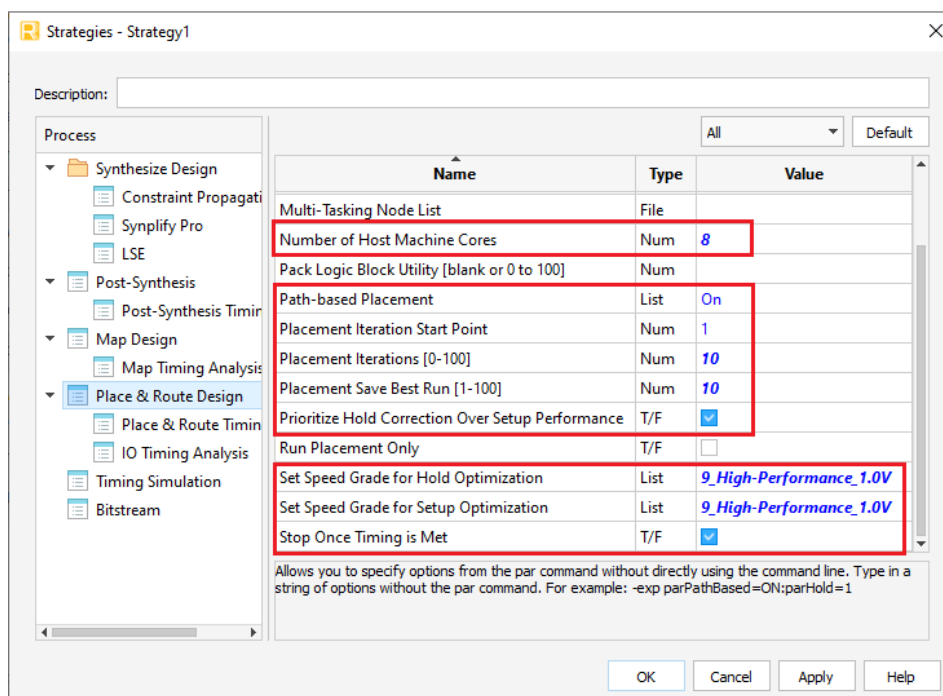

Figure C.62. PAR Setting for Main System Bit File Generation
12. Select **Place and Route Design** and only apply the settings shown in Figure C.62.